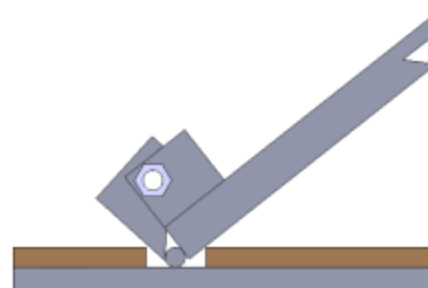

Fig.14
3. To lower lift: Press the button UP, until the safety lock is in the released position (**See Fig.14**), lower lift by pushing lowering handle.